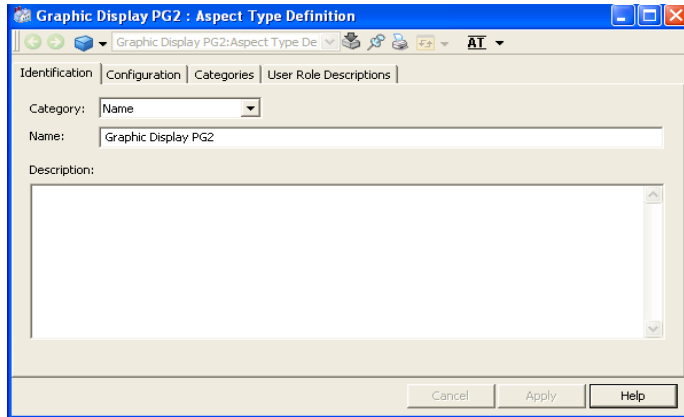

Figure 253. Aspect Type Definition
2. Right-click on one of the aspect types. For example, right-click on **Graphic Display PG2** and select **Aspect Type Definition** from the context menu. The **Aspect Type Definition** dialog appears as shown in Figure 253.